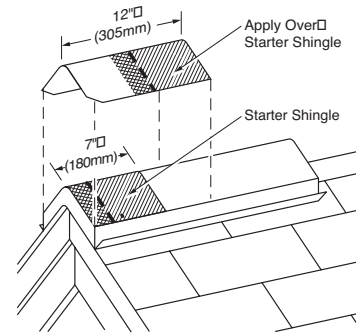

Figure 13-17: Apply a full cap shingle over the starter piece, flush with the bottom and side edges of the starter.
3. Apply a full cap shingle over the starter (Figure 13-17), and place fasteners at 55/8" up from the exposed bottom edge and 1" in from each side. Nails must not be exposed and must not cut into the shingle surface.
2. Install caps beginning at the bottom of a hip or at either end of a ridge. Apply a starter piece that has the bottom 5" removed (Figure 13-17). Fasten the starter with two nails located about 3" from the rake edge, and 1" in from each side edge. Make sure fasteners used to apply caps are of sufficient length to penetrate at least 3/4" into or through the decking.